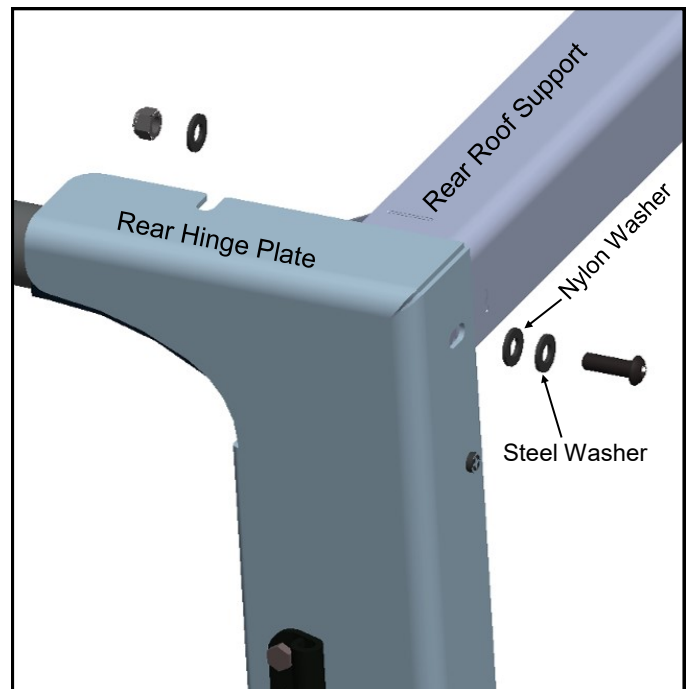
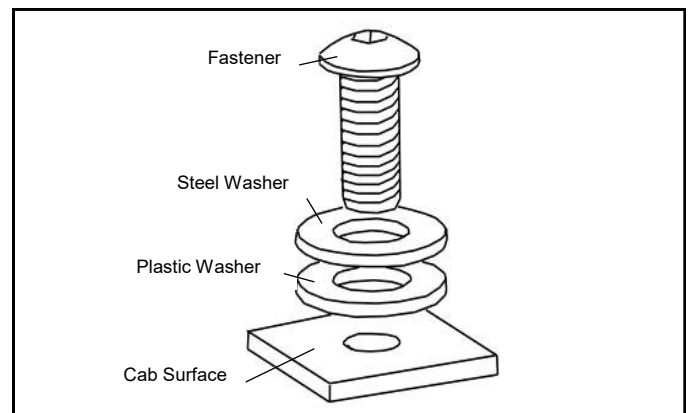

Fig. 6.1 (install upper rear bolt)
Fig. 6.2 (washer order)
6. Per fig. 6.1, align the rear hinge plate on top of the rear roof support. Attach the top of the rear hinge plate from the back with one 5/16-18 x 1" bolt, one 5/16" nylon washer, two 5/16" steel washers, and a 5/16" nut. Install in the order shown in Figure 6.2. Install the bolt so that the head is on the back side and the nut on the inside. Do not tighten at this time.